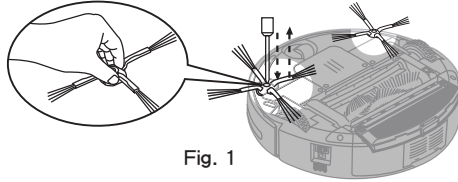

Fig. 1
2. Press the side brush against the main shaft and then fasten the screw (Refer Fig. 1) to re-assemble.